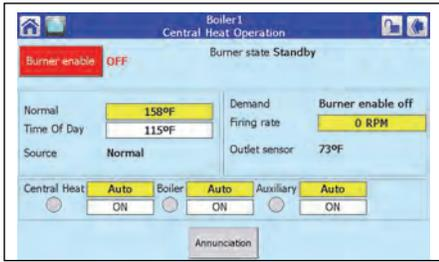

Figure 4-10 Operation screen
4. Initiate burner firing sequence. The burner switch is accessed via the CB Falcon Operation page (**Figure 4-10**). If the burner does not ignite, adjust choke counterclockwise slightly until you can see a slight yellow flame at the burner during ignition. Clockwise adjustments to the low-fire offset screw may also be tried. Check that gas pressure to gas valve inlet is sufficient to fire burner (see Table 4-3 for gas pressure requirements).